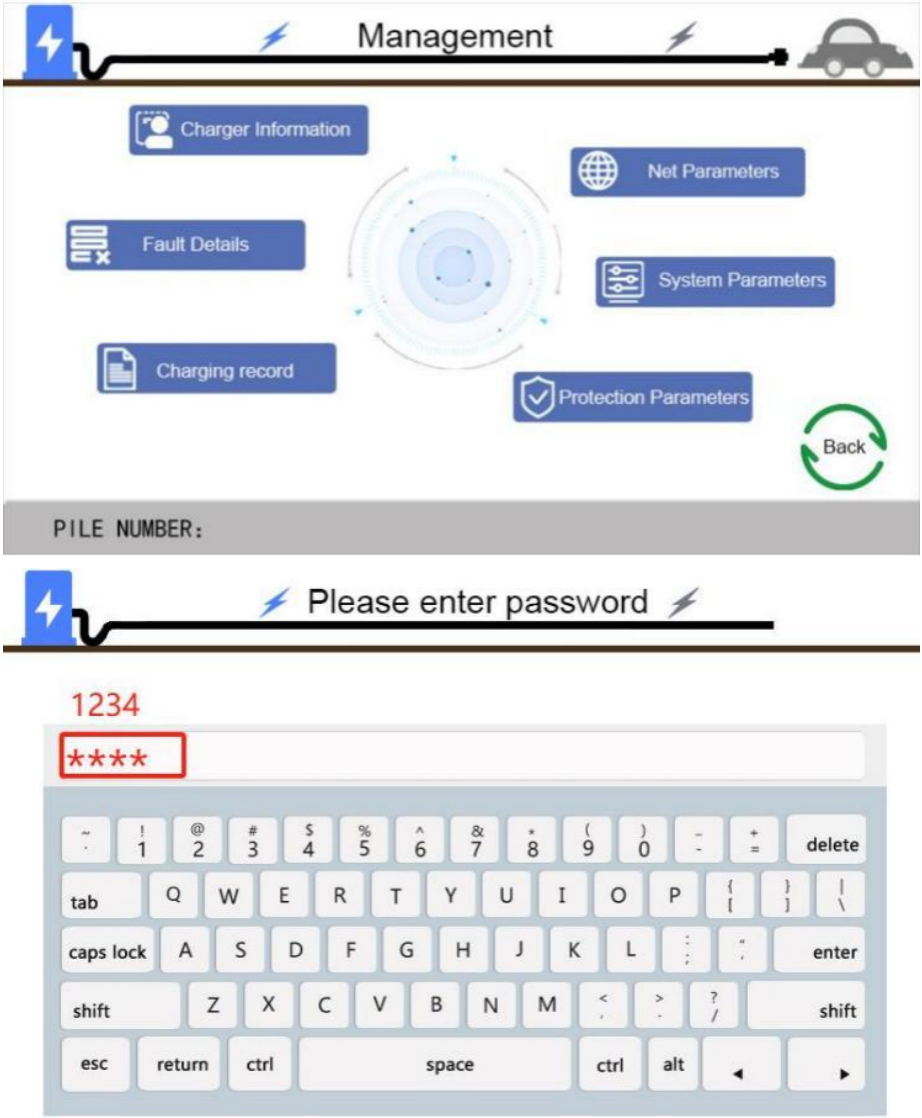

Fig. 6-6 Display of Management
- Click the settings icon three times to enter the settings interface, the picture displayed on the LCD screen is shown in Fig. 6-6.